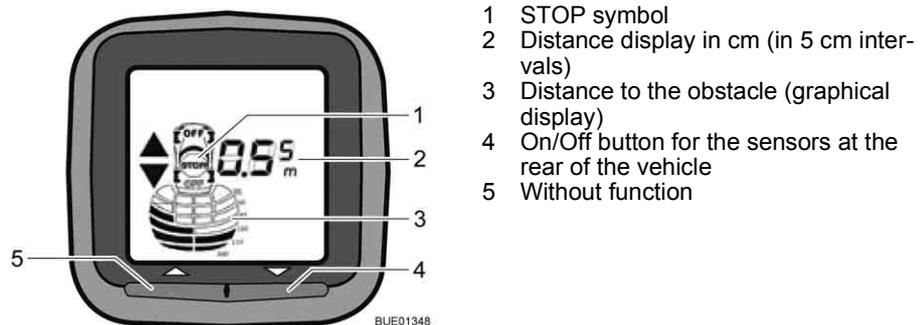

Fig. 11 Park Boy V display unit
In the passenger compartment, a display unit (Fig. 11) shows the distance to the obstacle. At the same time, an acute signal sounds as a warning.
- Press the On/Off button (Fig. 11,4). The display illuminates and the vehicle symbol appears in the display. The parking distance control is ready to measure.
- Press the On/Off button (Fig. 11,4). The parking distance control can be switched off at all times independent of the selected switch-on method using the On/Off key.
The distance between the vehicle and the obstacle is issued in three ways: The display (Fig. 11) shows the distance in steps of 5 cm. The shortest distance measured by a sensor is shown.